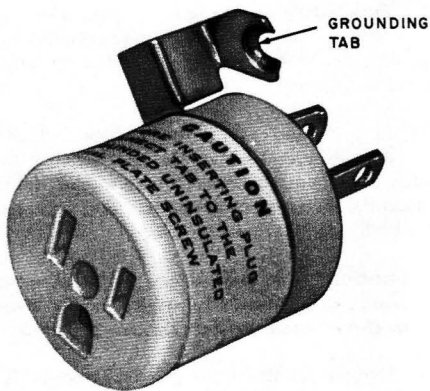

Fig. 2—Adapter
3.02 The adapter shown in Fig. 2 is used at a grounded convenience outlet to extend the power service ground for a 3-conductor device.
3.03 The grounding terminal of the adapter (Fig. 2) has a green-colored rigid tab (ear, leg, or similar device) which must be turned to the center of the convenience outlet and secured